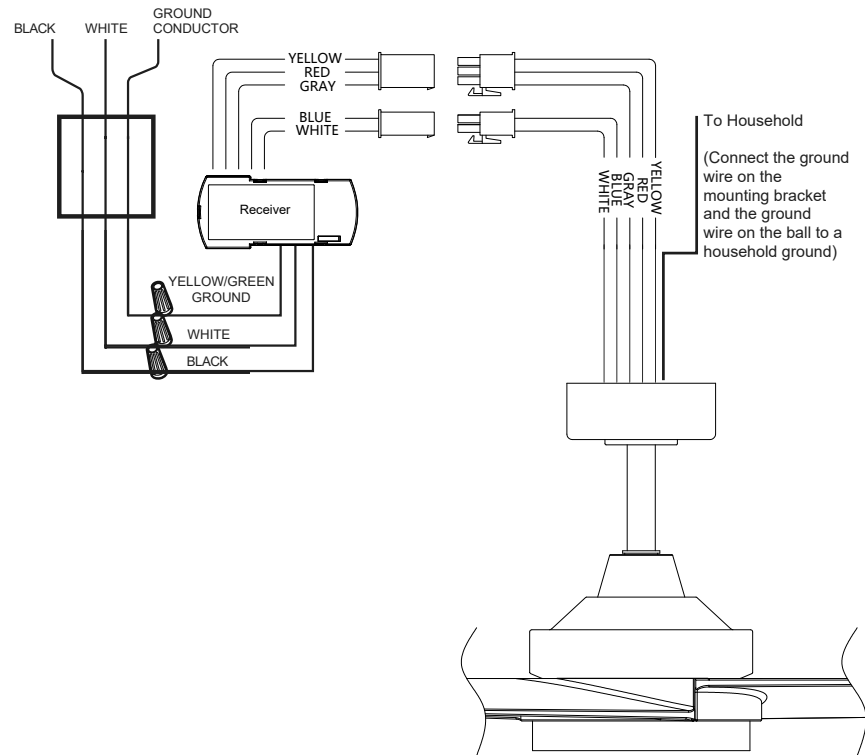

Fig. 14
Make each of the wire connections illustrated in Fig. 14. Secure each with the wire plugs provided.
Step 1. Connect wires using connectors as shown in Figure . Connect the 2 pin connectors from the motor assembly to the 2 pin connectors from the receiver, connect the 3 pin connectors from the motor assembly to the 3 pin connectors from the receiver. (Fig. 14)